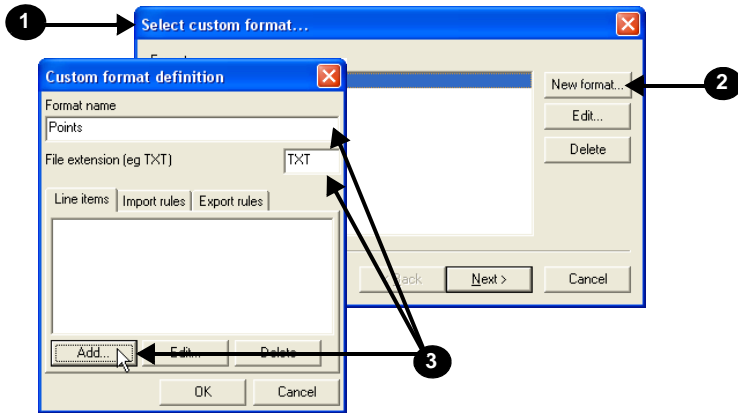

Figure 2-16. Create New Format
1. Click **Project ► Export control points ► To text file**. The *Select custom format* dialog box displays (Figure 2-16 on page 2-14).
- On the **Custom format definition** dialog box, type a name for the new format and an extension of the file, then press **Add** on the **Line items** tab (Figure 2-16 on page 2-14).